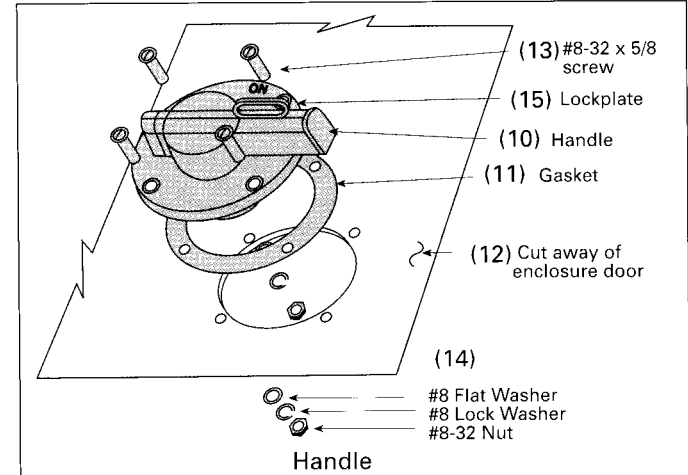

Figure 5
A. Per Figure 5, attach the handle **(10)** and gasket **(11)** to the enclosure door **(12)** and secure with four bolts, flatwashers, lockwashers and nuts supplied **(14)**. Tighten nuts to 75 in-lbs.